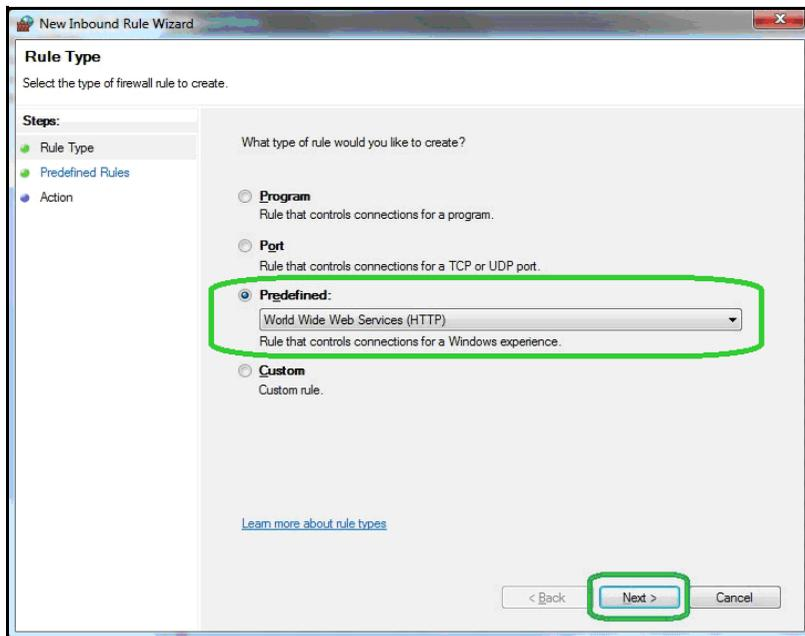

FIGURE 2-42 Windows Firewall - New Inbound Rule Wizard - Predefined (World Wide Web)
Step 17 On the **Rule Type** page, select **Predefined:**, as shown in FIGURE 2-42.
Step 18 Select **World Wide Web Services (HTTP)**, as shown in FIGURE 2-42.